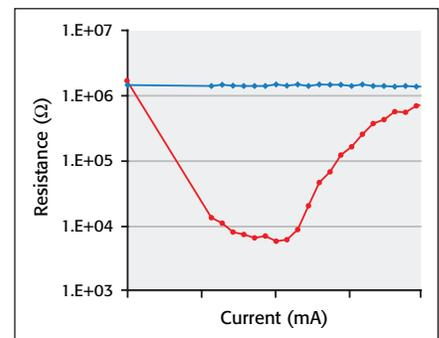

Figure 2. RI curve in red.
- **Resistance-current (RI) curves** – The RI curve (*Figure 2*) is one of the most common parameters collected during PCM characterization. A pulse sequence (*Figure 3*) is sent through a DUT. The first one, a RESET pulse, sets the resistance of the
DUT to the high value. It is followed by a DC-read or MEASURE pulse that's usually 0.5V or lower in order to avoid affecting the state of the DUT. This is followed by a SET pulse and another MEASURE pulse. The entire sequence is repeated multiple times, with the amplitude of the SET pulse slowly increased to the value of the RESET pulse. In the RI curve in *Figure 2*, note the plotted values of the measured resistances after the SET or RESET pulse. These values are plotted against current in the SET pulse. RESET values slightly exceed 1M $\Omega$ ; SET resistance values range from one mega-ohm to several kilo-ohms, depending on the value of the SET current.